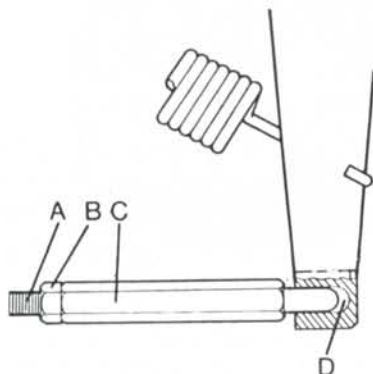

Fig. 156—View showing transmission clutch adjustment linkage for 1490 low profile tractors.
212. Transmission clutch free travel should be 4 mm ($\frac{5}{32}$ inch) measured at "D" (Fig. 156) between adjusting sleeve (C) and cross-shaft lever. Loosen locknut (B) and turn adjusting sleeve (C) on slave cylinder push rod (A) as necessary.